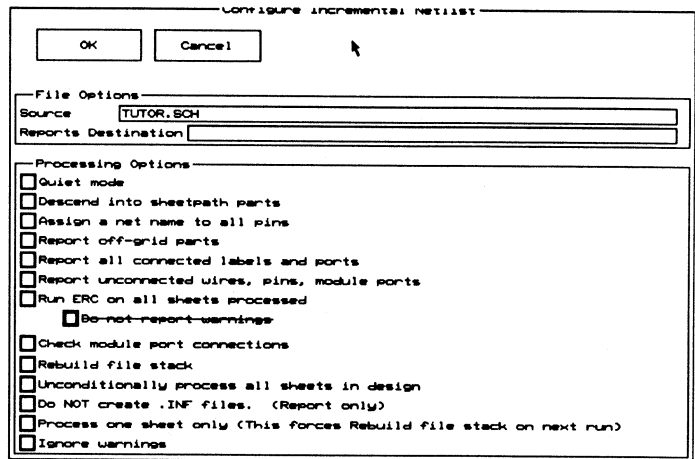

Figure 7-3. Configure Incremental Netlist screen.
2. Select **Configure INET**. The **Configure Incremental Netlist** screen displays (figure 7-3).